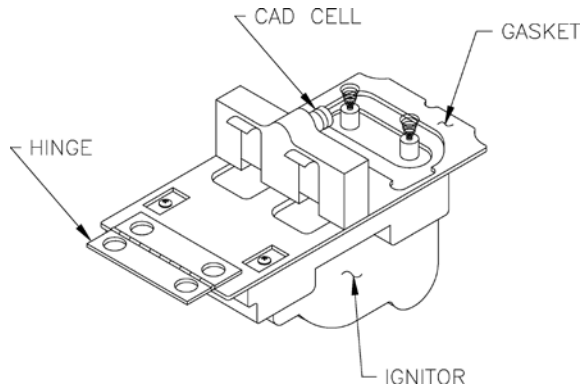

Figure 30: Cad Cell Location
- If safety switch shuts down burner and resistance is above 1600 OHMS, open line switch to boiler. Access cad cell under ignitor, clean face of cad cell and see that cell is securely in socket, see Figure 30. Check gasket around perimeter of ignitor lid for proper seal. If gasket is missing or damaged, replace gasket. Room light can effect cad cell resistance. Reset safety switch.